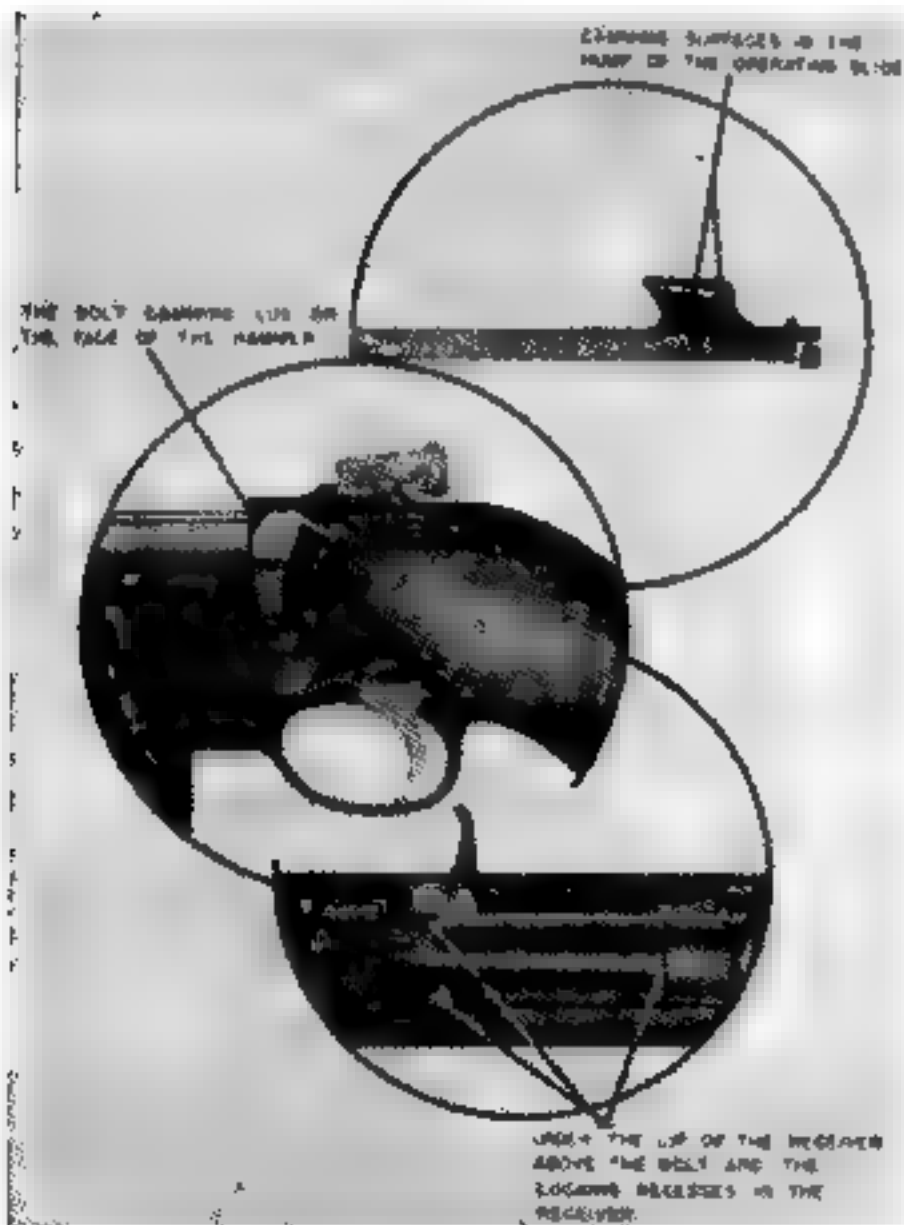

Figure 43b. Points on which to apply rifle grease.
- (3) Cocking cam on rear of bolt and firing pin tang recess.
- (4) Contact surface of barrel and operating slide.
- (5) Operating slide spring guide.
- (6) Operating slide handle grooves on side of the receiver.
- (7) Operating slide grooves in barrel.
- (8) Contacting surface of receiver and operating slide.
- (9) Cammed surfaces in the hump of the operating slide.
- (10) Piston.
- (11) Magazine catch and magazine catch plunger.
- (12) Operating slide stop.
*e. Use rifle grease if the carbine is exposed to a great deal of rain or to spray from sea water, because the bolt may occasionally fail to open. This is caused by the friction resulting from the effect of the water and the fact that any ordinary lubricant is likely to be washed away from certain bearing surfaces. Under these conditions, it is essential that such surfaces be coated with rifle grease which resists the action of the water. Apply rifle grease to the parts shown in Figure 43b after wiping them clean and dry with a cloth. Rifle grease is not normally applied to other parts. After applying rifle grease, work the parts several times to spread the grease.*
- (2) *Avoid excessive friction.* If the carbine shows signs of excessive friction due to lack of lubrication, apply oil to the parts that need it. If this friction is the result of dirt and there is no time to clean the carbine, use an extra amount of oil in the places needed. Friction is indicated if the empty cartridge cases are being ejected to the right rear or if the action of the bolt is sluggish. Apply oil at the first opportunity, as failure to chamber and eject will occur if the condition is not corrected.
- (3) *Use extra care under severe conditions.* If the carbine is to be exposed to severe conditions of rain or salt water, apply rifle grease. The points on which to apply this grease are shown in Figure 43b.